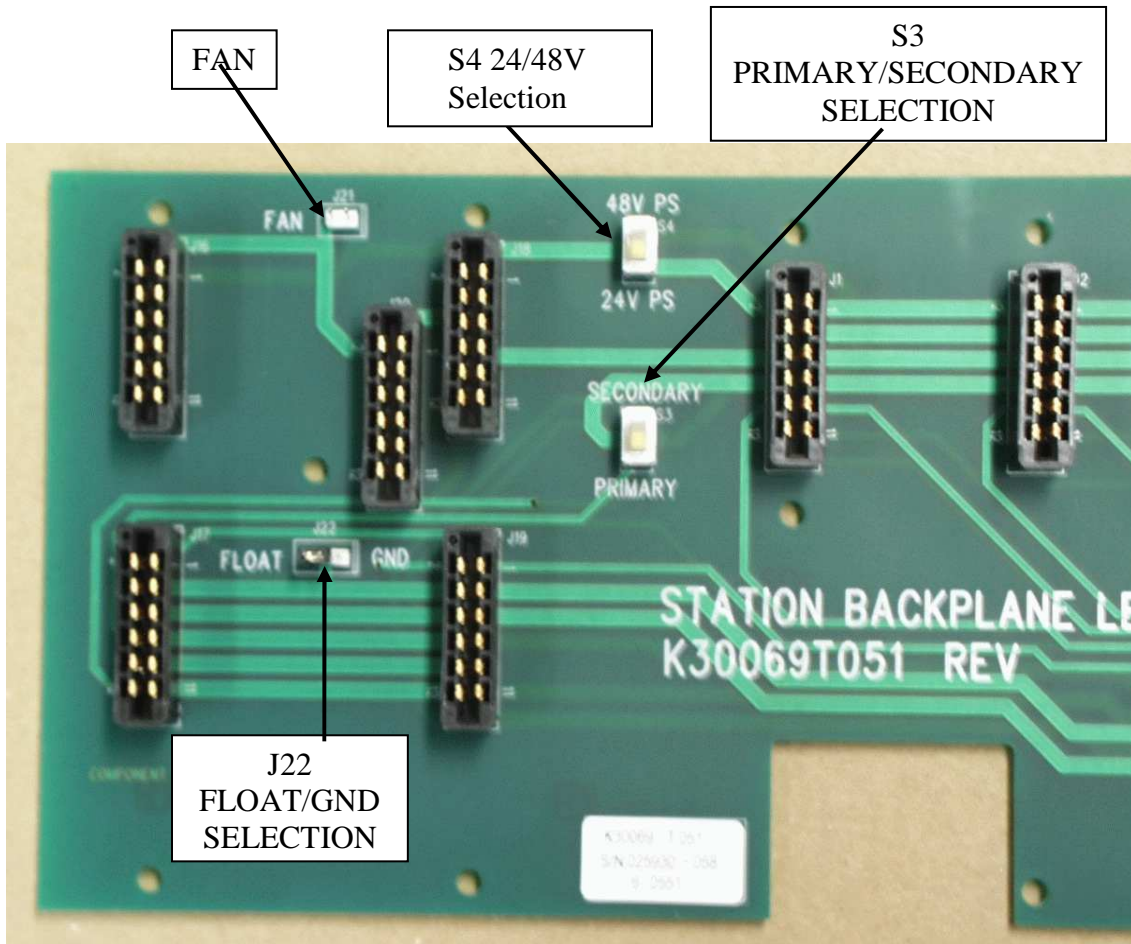

Figure 7: Upper Left Backplane Switches and Jumpers
Each of the twelve (12) slots will support two (2) pairs. See Figure 7 and 8. The first pair is connected to the left side of the backplane jacks and assigned a numeric designation (i.e. T1, R1, etc.). The second pair is connected to the right side of the backplane jacks and is assigned an alpha designation (i.e. TA, RA, etc.). See Table 2.
Three “half-size” card slots are located in the upper left corner of the Card Shelf (See Figure 7 and 8). Of the three “half size” card slots, only the left and right positions (J16/17 and J18/19) are used for power supply cards. **The middle slot (slot J20) is used only for a 24VDC battery backup card.** One of the power supply slots is blocked and unavailable when a battery backup card is used. The battery slot is blocked if the new version P31150 power supply is used.
Each of the twelve (12) slots will support two (2) pairs. (See Figure 7 and 9)